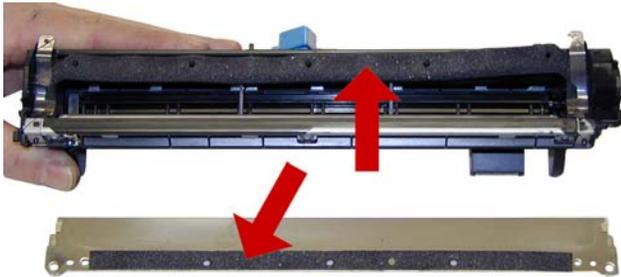

Figure 7
8) Remove the doctor blade. Carefully separate the foam seal from underneath the blade. Be careful not to tear this foam as the cartridge will leak. See **Figure 7**